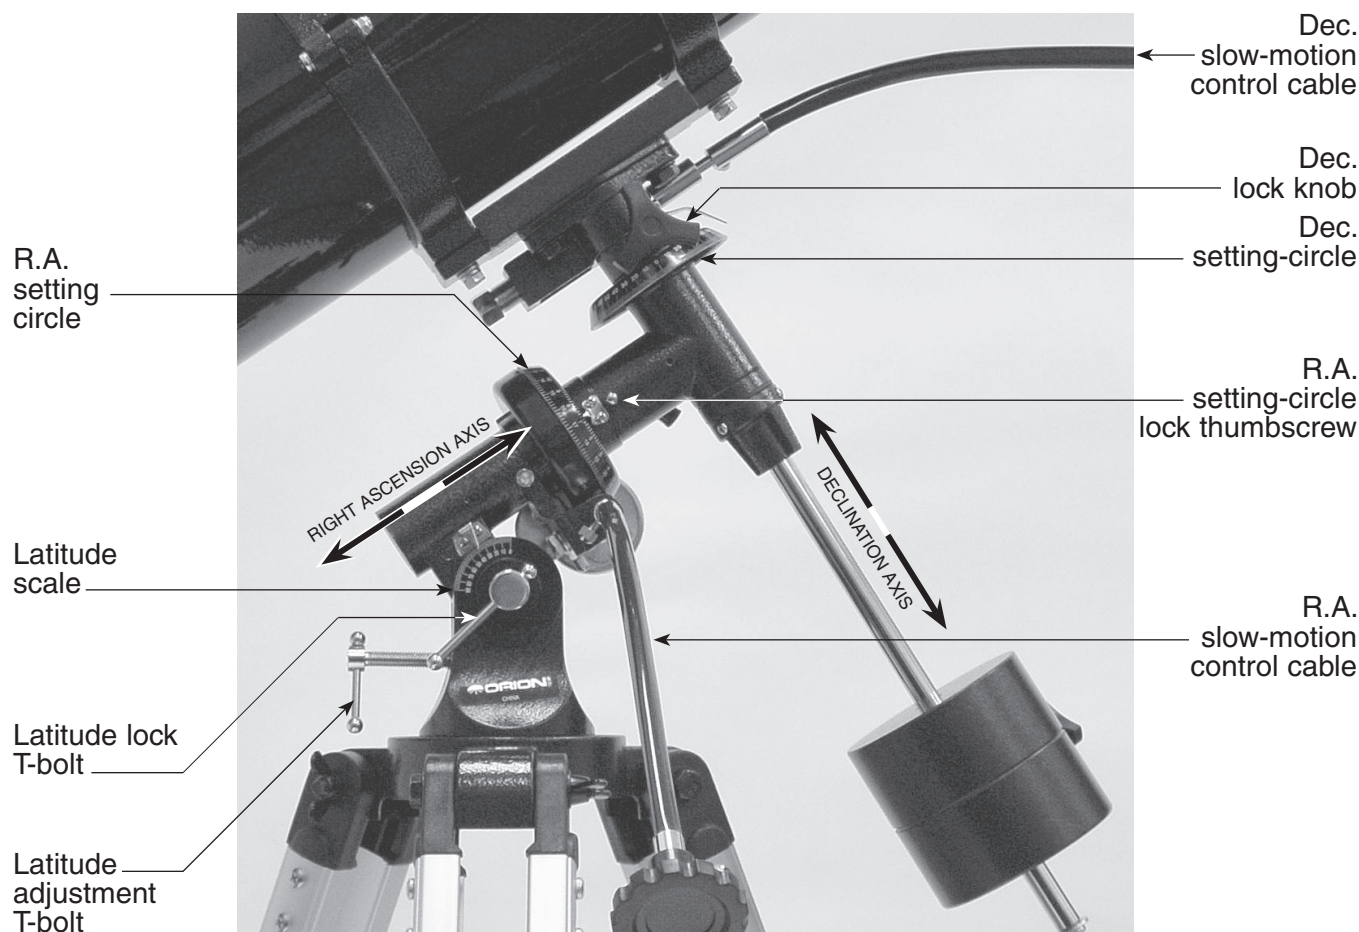

Figure 2. The SpaceProbe 130's equatorial mount.
4. Orient the equatorial mount as it appears in Figure 2, at a latitude of about 40° , i.e., so the pointer next to the latitude scale (located directly above the latitude lock T-bolt) is pointing to the mark at "40." To do this, loosen the latitude lock T-bolt, and turn the latitude adjustment T-bolt until the pointer and the "40" line up. Then retighten the latitude lock T-bolt. The declination (Dec.) and right ascension (R.A.) axes may need re-positioning (rotation) as well. Be sure to loosen the RA and Dec. lock knobs before doing this. Retighten the R.A. and Dec. lock knobs once the equatorial mount is properly oriented.
When you look at the night sky, you no doubt have noticed that the stars appear to move slowly from east to west over time. That apparent motion is caused by the Earth’s rotation (from west to east). An equatorial mount (Figure 2) is designed to compensate for that motion, allowing you to easily “track” the movement of astronomical objects, thereby keeping them from drifting out of the telescope’s field of view while you’re observing.